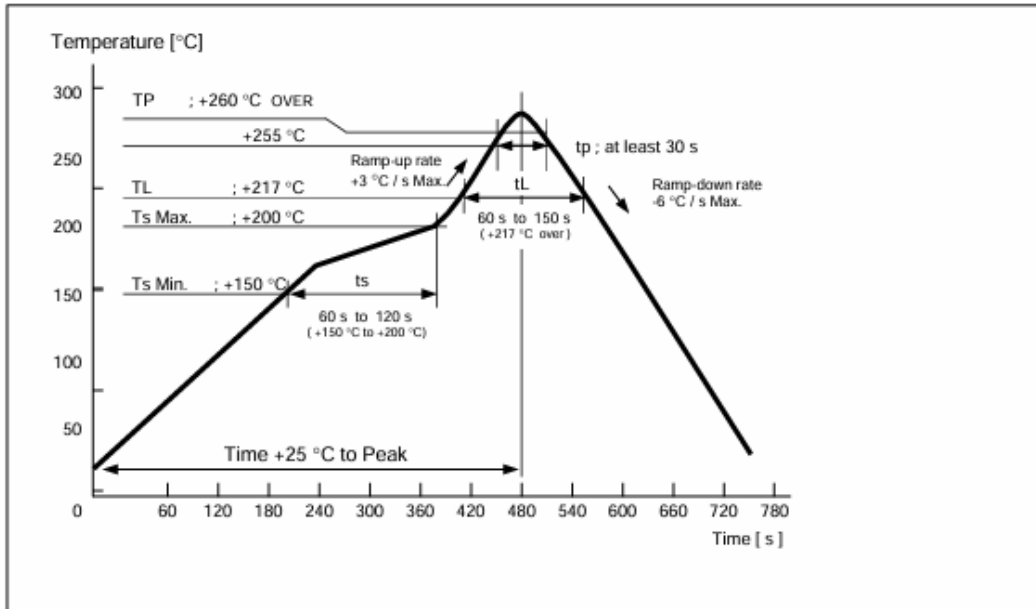

Figure 48 Reference Profile
* See Fig. 48 profile for our evaluation of Soldering heat resistance for reference.
(2) Mounting equipment